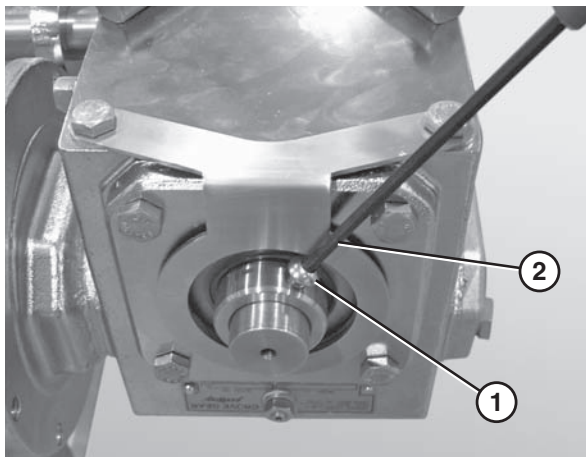

Figure 36
5. Tighten the drive spindle fasteners (**Figure 36, item 1**) located on the inside and outside of the gearmotor using a hex wrench (**Figure 36, item 2**).